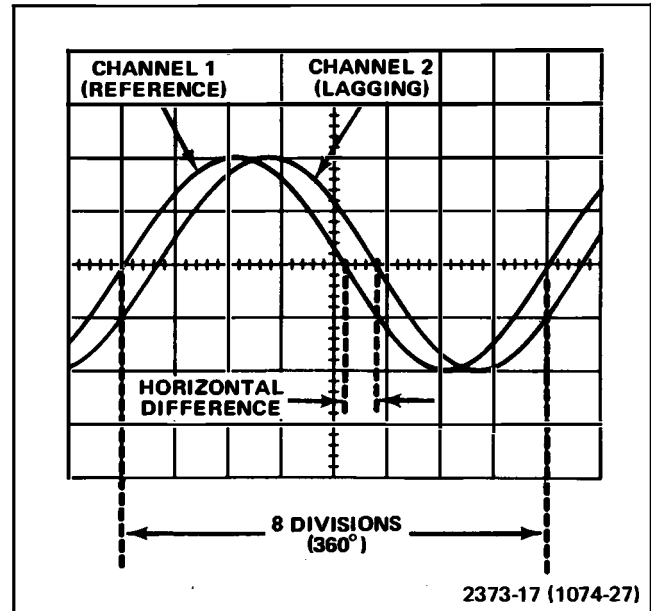

Fig. 17. Measuring phase difference.
8. Turn sweep VAR control until one cycle of reference signal (Channel 1) occupies exactly eight divisions between second and tenth graticule lines (see Fig. 17). Each division of graticule represents 45° of the cycle ($360^\circ \div 8 \text{ divisions} = 45^\circ / \text{division}$). The sweep rate can be stated in terms of degrees as $45^\circ / \text{division}$.
EXAMPLE: Assume a horizontal difference of 0.6 division with a sweep rate of $45^\circ / \text{division}$ as shown in Fig. 17. Using the formula: